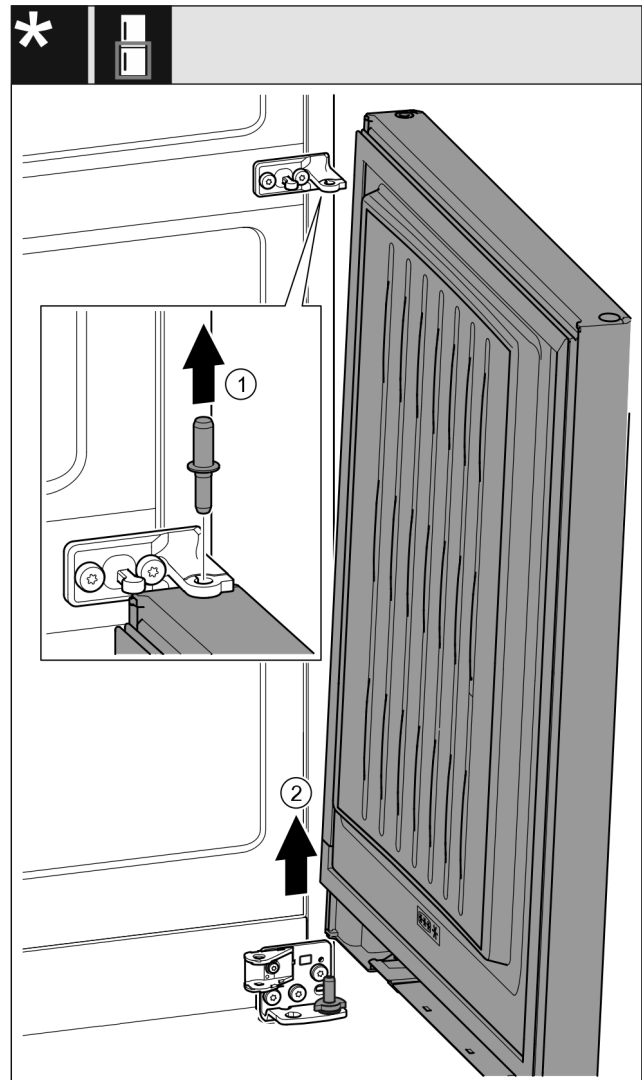

Fig. 27 With closing damper*
- ▶ Pull out the pin Fig. 27 (1) upward.*
- ▶ Swivel out the door Fig. 27 (2), pull it upward, and set it aside.*